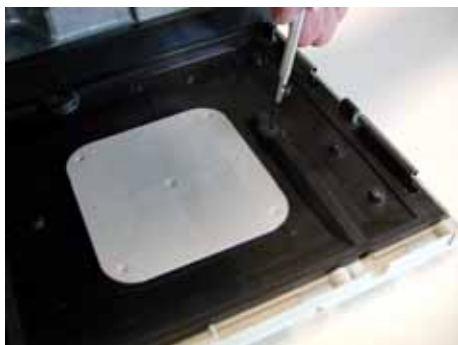

Figure 5 Removing the rubber plugs
- 6** Remove the two rubber plugs by use of a small, spiky screw-driver or tweezers (see Figure 5).